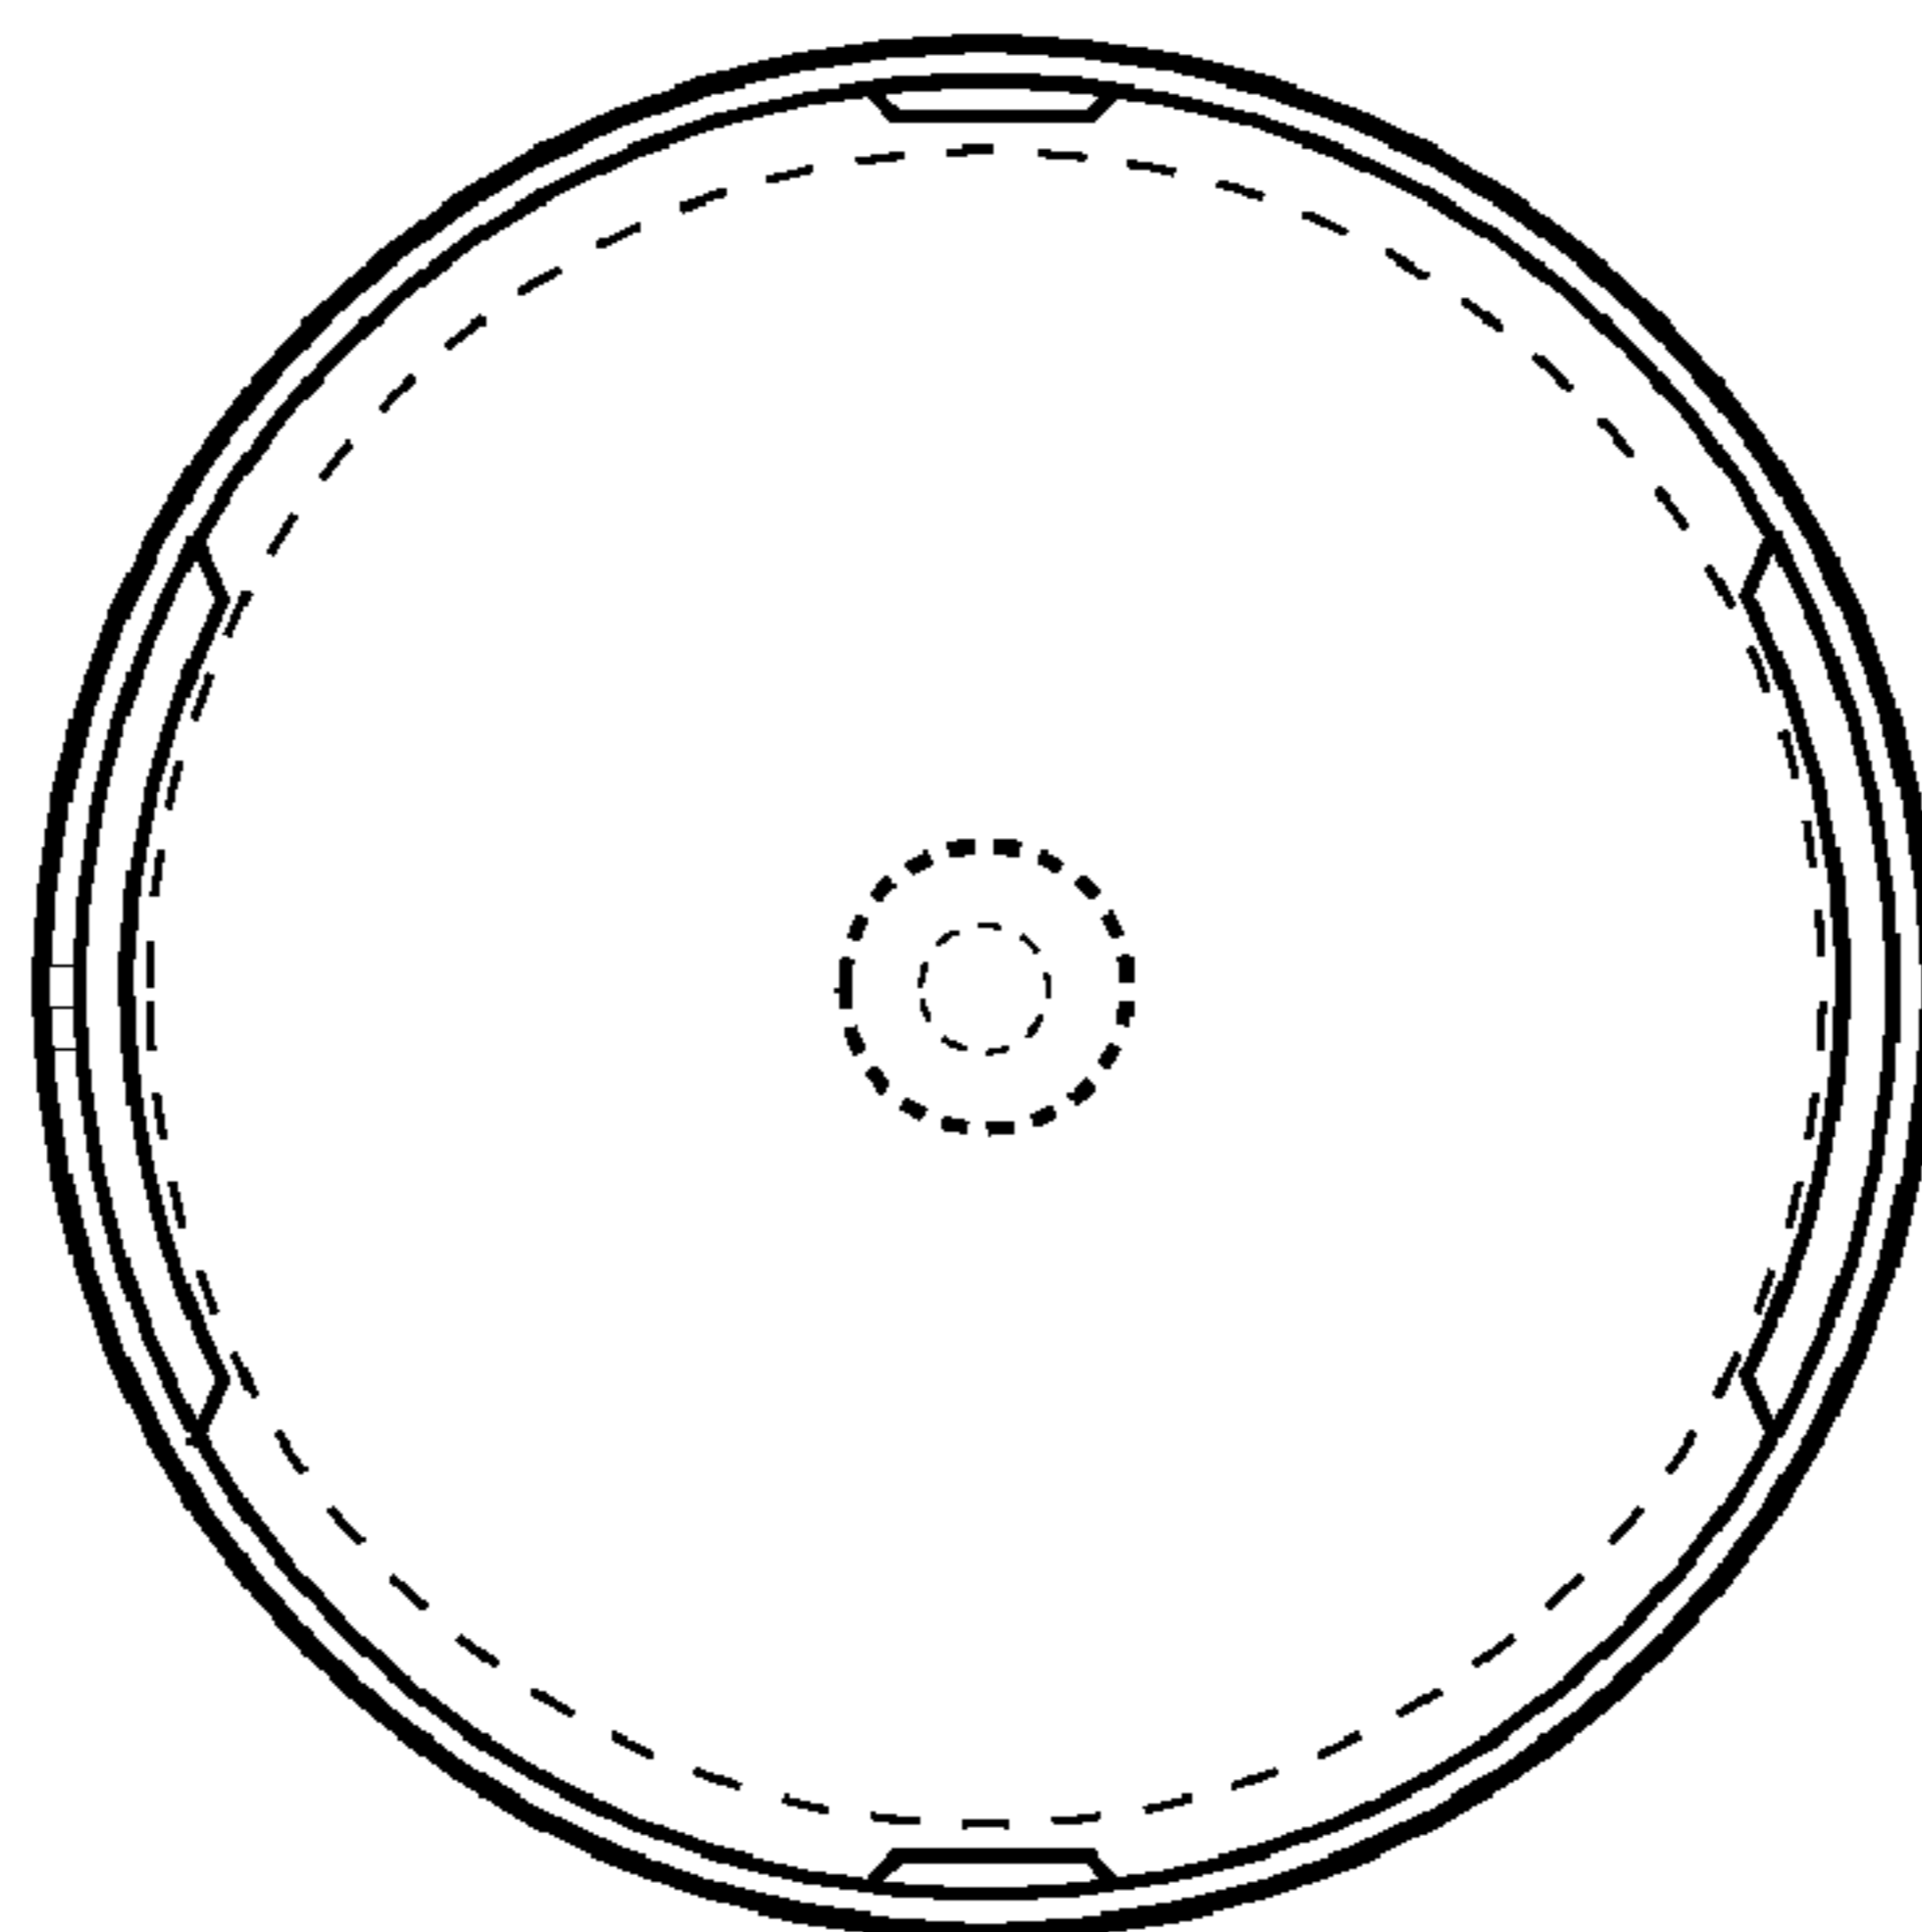

FIG. 8
- FIG. 8 is a front view of the housing;